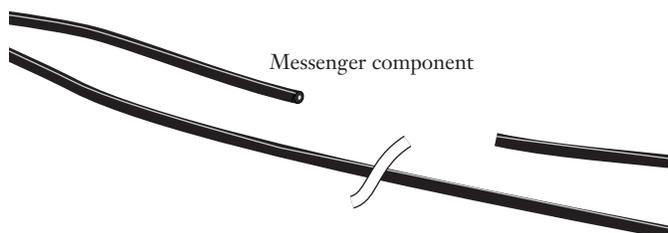

Figure 11
6.3 Determine the messenger lengths for installation in the splice closure or other hardware. After making sure that you have identified the messenger component, use side cutters to cut it (Figure 11).